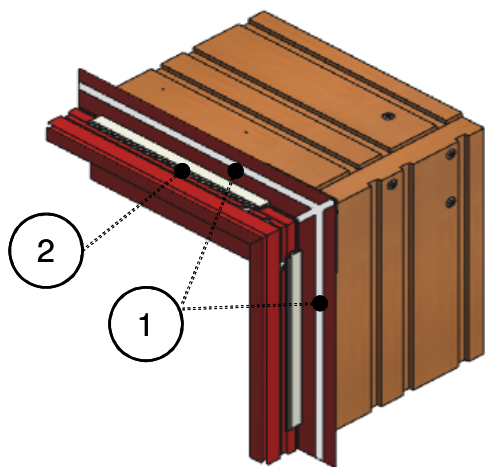

Figure 1
- 2) Apply continuous bead of Chem-Calk Bostik 2020 from head to jamb and mitered corner. (Figure 1)